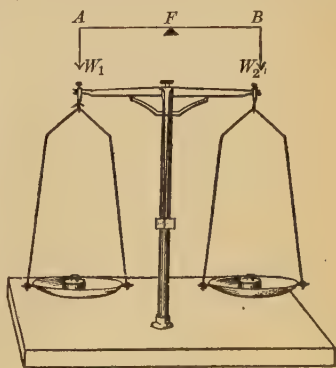

FIG. 8. — Equal-arm lever.
arms, such as a seesaw, or the walking beam on a steamboat, or the scale beam on a platform balance. In this case we know that equal weights or equal forces just balance when placed at equal distances from the point of support. Thus in figure 8, when W_1 equals W_2 , the distance AF must equal the distance BF . In the technical language of physics the point of support (F) of a lever is called its **fulcrum**.